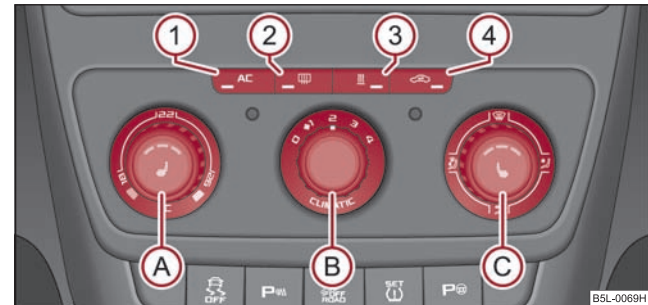

Fig. 102 Climatic: Control elements
The cooling only operates if the button   ⇒ fig. 102 is pressed, and the following conditions are met:
- Turn the control dial  ⇒ page 99, fig. 102 to the right in order to increase the temperature.
- Press the button   ⇒ page 99, fig. 102. The warning light lights up in the button.
- Press the button   ⇒ page 99, fig. 102 the warning light lights up in the button.
The recirculated air mode is switched off automatically if the air distribution control  ⇒ page 99, fig. 102. You can also switch recirculated air mode on again from this setting by repeatedly pressing button .